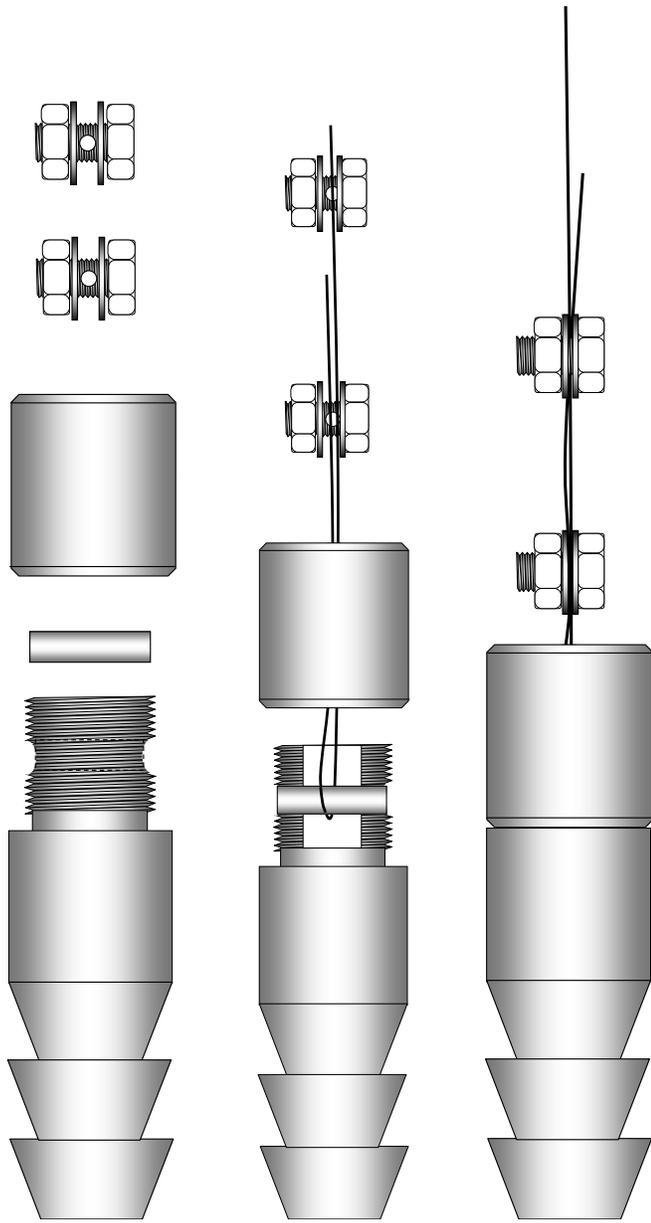

Figure 10 Inverted Pendulum Grout Anchor and Lower Wire Clamp Details
4.3.2.3 The two part Grout Anchor is assembled and the stainless steel wire is attached to it by means of the lower wire clamp. Details of the grout anchor and the method of attaching the wire are shown below in Figure 10.